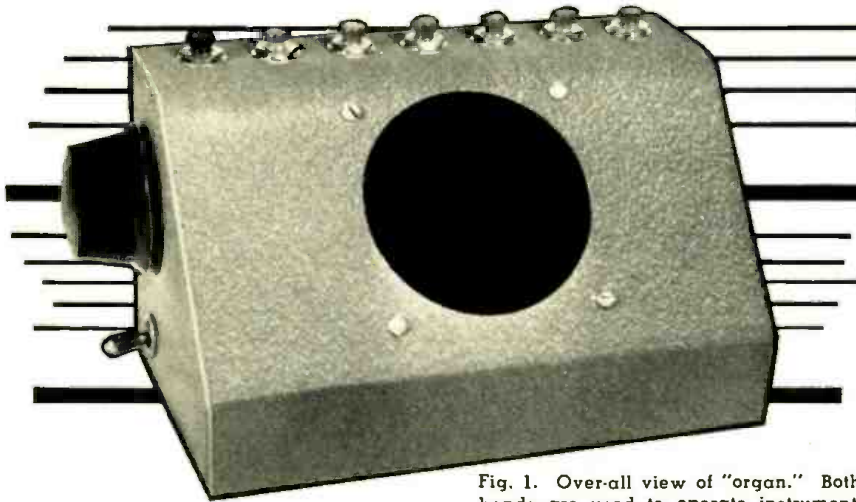

Fig. 1. Over-all view of "organ." Both hands are used to operate instrument.
**A**LTHOUGH the device shown in Fig. 1 is not an "organ" in the truest sense of the word, it is capable of producing tunes when operated by a person of moderate skill. In fact, the operator need not be a skilled musician. The average person, with a little practice, can "pick out" tunes, playing one note at a time.